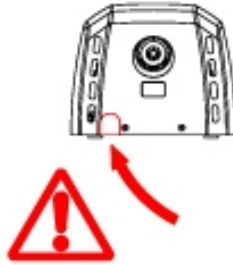

Figure 12.
- It is also very important to ensure that once mounted and screwed to the base the casing has the plastic protector correctly placed on the lower inverted "U" shaped window (Figure 12).